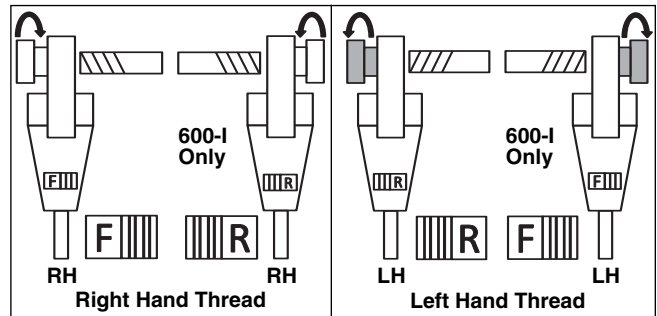

Figure 10 – Slide Switch/Die Head Orientation
7. Position the power drive F/R Slide Switch for the desired right or left hand thread. *See Figure 10.*